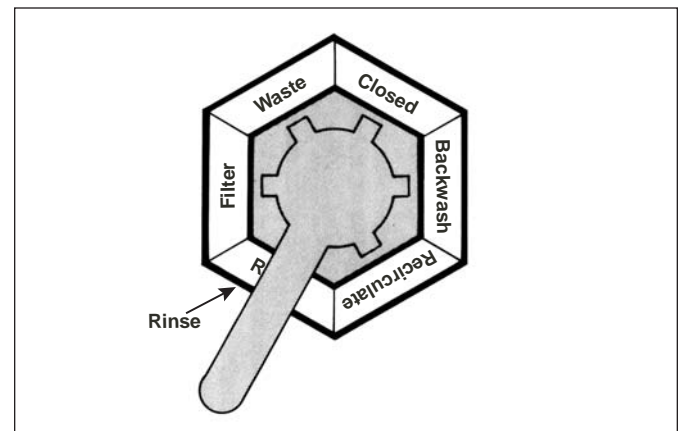

Figure 8. Diverter Valve Handle Positions
2. The handle on top of the backwash valve or diverter valve can be moved to different positions. The function of each position is described below. See Figure 8.
5. See Figure 8 for the arrangement of filter grids in the filter grid assembly.